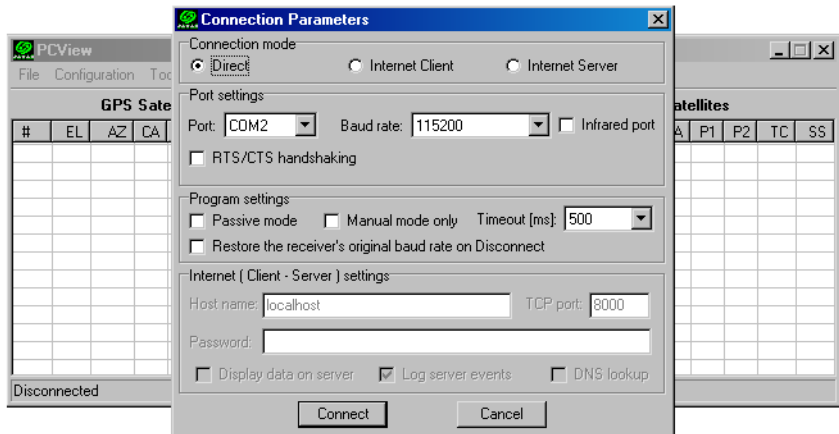

Figure 2-9. PCView Main Window
1. Once the receiver and a computer are connected, start PCView on your computer. The PCView main screen displays (Figure 2-9).
- For Bluetooth® or RS232 connections (Figure 2-9 on page 46)